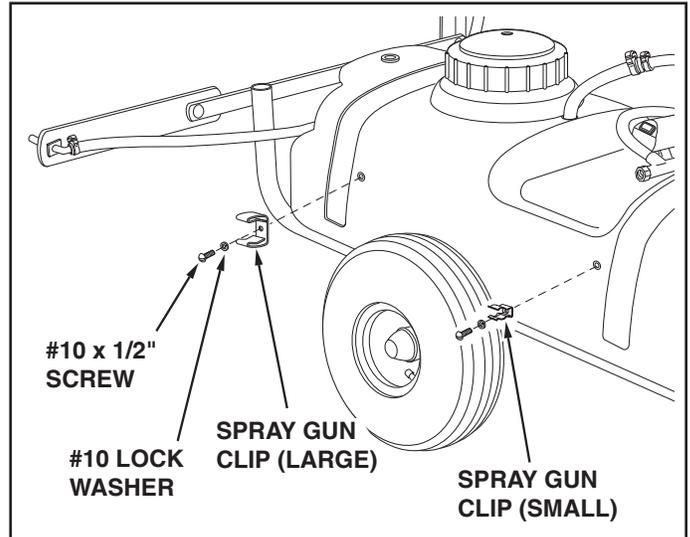

FIGURE 6
- Assemble the large and small spray gun clips to the side of the tank using two #10 x 1/2" screws and #10 lock washers. See figure 6.
15. Snap the spray gun into the clips on the front of the tank. (The large clip holds the spray gun handle and the small clip holds the wand.) Refer back to figure 6.